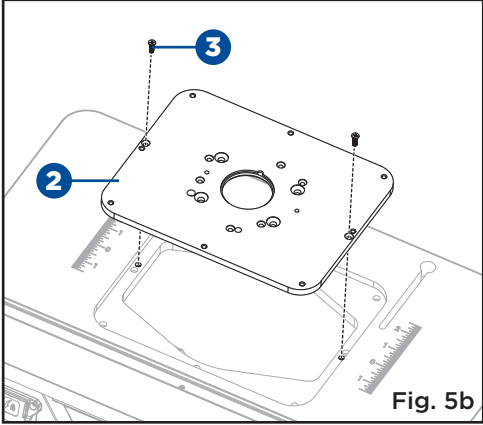

Fig. 5b
- Loosen insert plate screws (3) and remove the insert plate (2). (Fig. 5b)